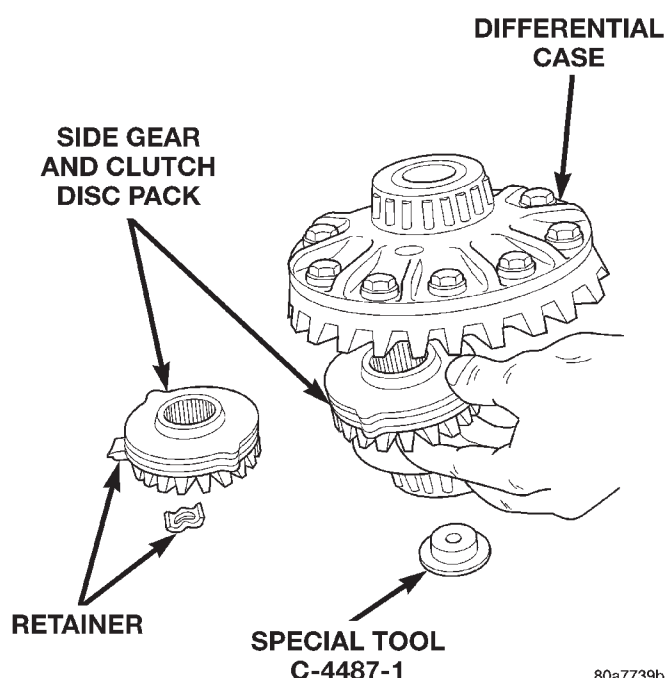

Fig. 63 Side Gear & Clutch Disc Removal
(16) Remove top side gear, clutch pack retainer, and clutch pack. Keep plates in correct order during removal (Fig. 63).
(17) Remove differential case from Side Gear Holding Tool 6963-A. Remove side gear, clutch pack retainer, and clutch pack. Keep plates in correct order during removal.